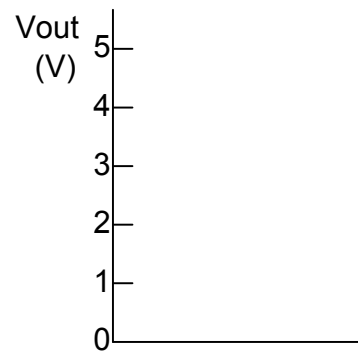

Figure 5.11 Output levels
- 1.1.6. Draw the input and output voltage ranges in the diagrams in Figure 5.10 and Figure 5.11 in section 1.2 of your Lab Measurements Sheet. What are your conclusions about the input threshold and output logic level voltage properties of the 74HCxx NAND gates powered by $V_{dd}=+5V$? Answer the question in section 1.3 of the Lab Measurements Sheet.